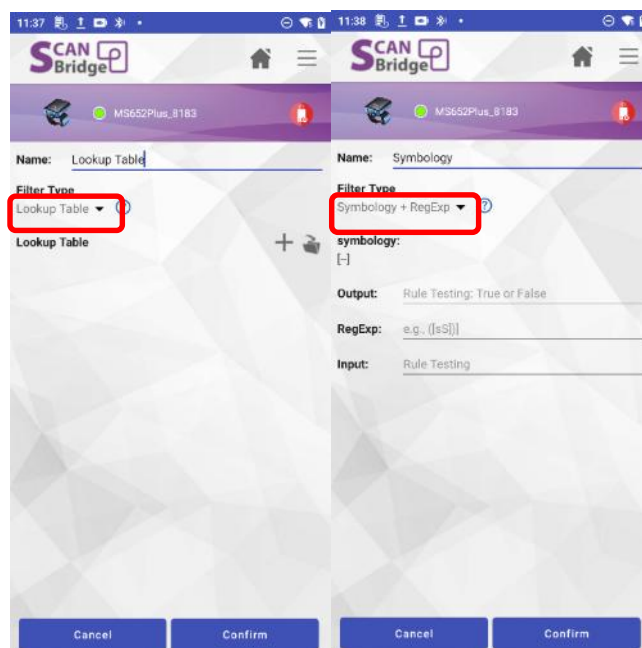

Figure 7.4.4
- User will need to set the Filter Type to “Symbology + RegExp” under Filter Rule Setting (Figure 7.4.4).